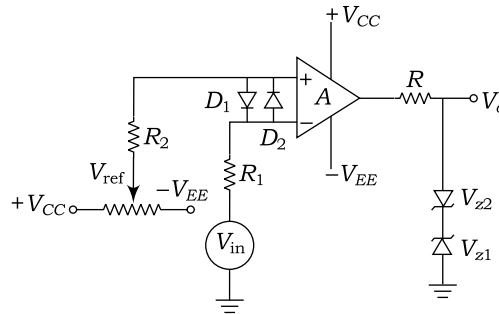

Fig. 7.112
34. Figure 7.112 shows a comparator circuit where $V_{Z1} = V_{Z2} = 10$ V, $V_D = 0.6$ V, $V_{ref} = +3$ V, saturation voltage ± 14 V, and $V_{in} = 2 \sin \omega t$. Draw the output voltage waveform.